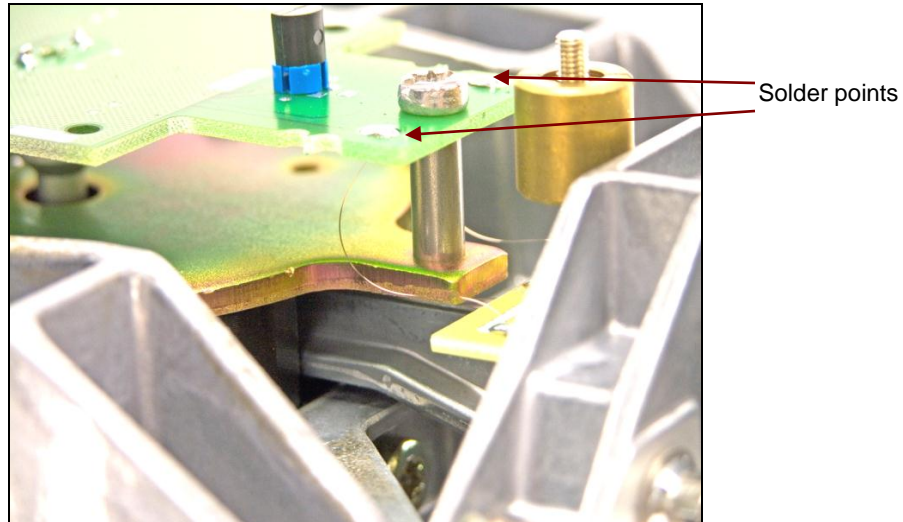

Figure 3-45. Solder points on either side of set screw connecting fine wire to Load Cell PCB.
2. Insert Brass Rod on back side under the Ratio Beam. Be sure Threaded Rod is on front. See Figures 3-45, 3-46, and 3-47, page 3-26.